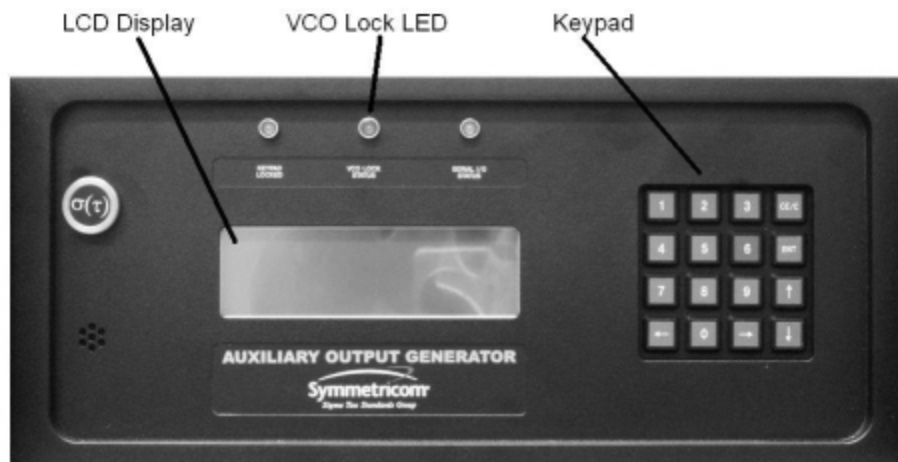

Figure 3.0. AOG Device, Front Panel Keypad Interface and VCO Lock Indicator.
- (1) If the AOG was received from a shipper, inspect it and the shipping container for signs of damage that might have occurred during shipment. Report any damage to the shipping container to the carrier and to Symmetricom-Sigma Tau.
- (2) Carefully remove the AOG from its packaging and place it on a table or bench so that the controls are accessible, as in Figure 3.0, below.
- (3) Apply power, connect a reference signal to the reference input and observe the messages displayed on the LCD display.